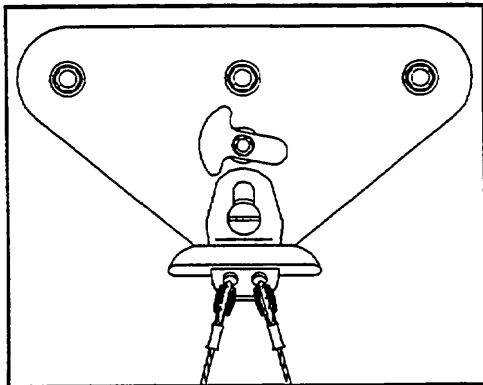

Figure 32
1) In order to install or remove the keyhole nose tang, the anchor must be rotated into the position shown in figure 32. This will allow the keyhole tang to be in a position far enough forward to slide onto or disengage from the collared bolt. With the anchor in this position, use normal procedures to engage or disengage the keyhole tang.